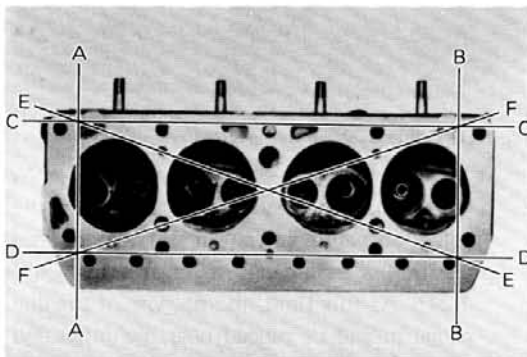

Fig. 1-15 Measuring Points for Warpage
3. Check the flatness of the cylinder head gasket surface with a straight edge and a feeler gauge. If the warpage exceeds 0.05 mm, grind the gasket surface with a surface grinder. The measuring points of flatness are as shown in figure 1-15.